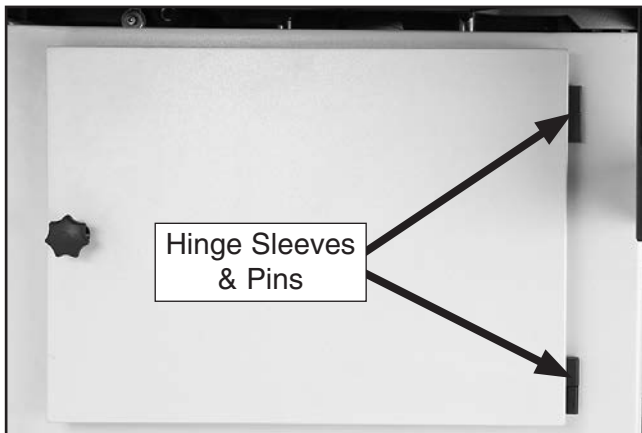

Figure 26. Cabinet door attached on hinges.
- Attach the cabinet door by sliding hinge sleeves over pins of already attached hinge (see **Figure 26**).